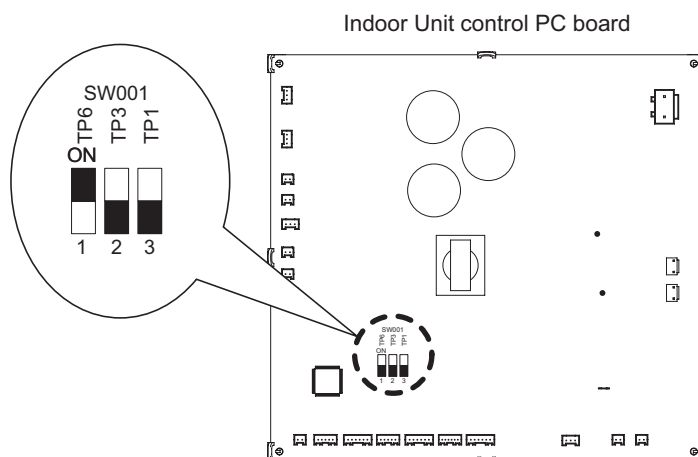

Fig. 4-5
2. Open the lid of the electrical component box and confirm the location where the Select switch on the indoor unit control PCB is placed. (Fig. 4-5)
(See Table 4-7 and Fig. 4-5.)